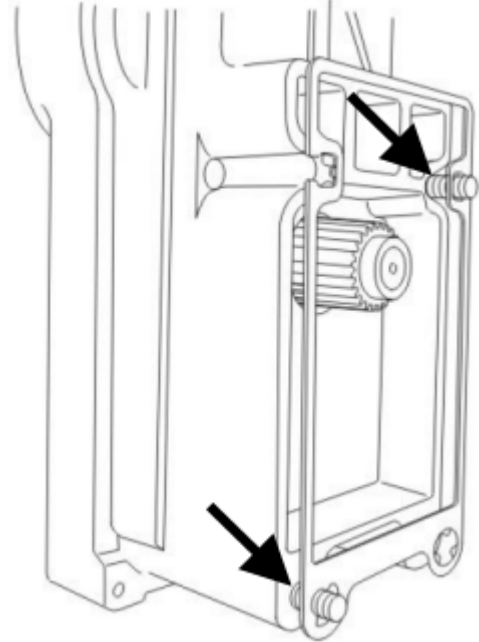

FIGURE 15
20. Install two new mounting screws diagonally across the actuator. Place a new gasket over the protruding screws at the back of the actuator (FIGURE 15).